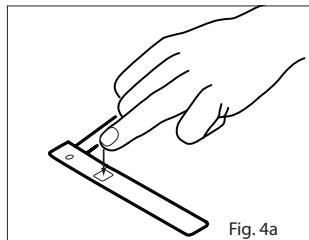

Fig. 4a
- Refer to Fig. 4a. Direct the sensor cable so that it runs along the top of the hand. Position the detector on the fleshy part of the finger. Alternatively, the sensor may also be applied to the toe (not shown).